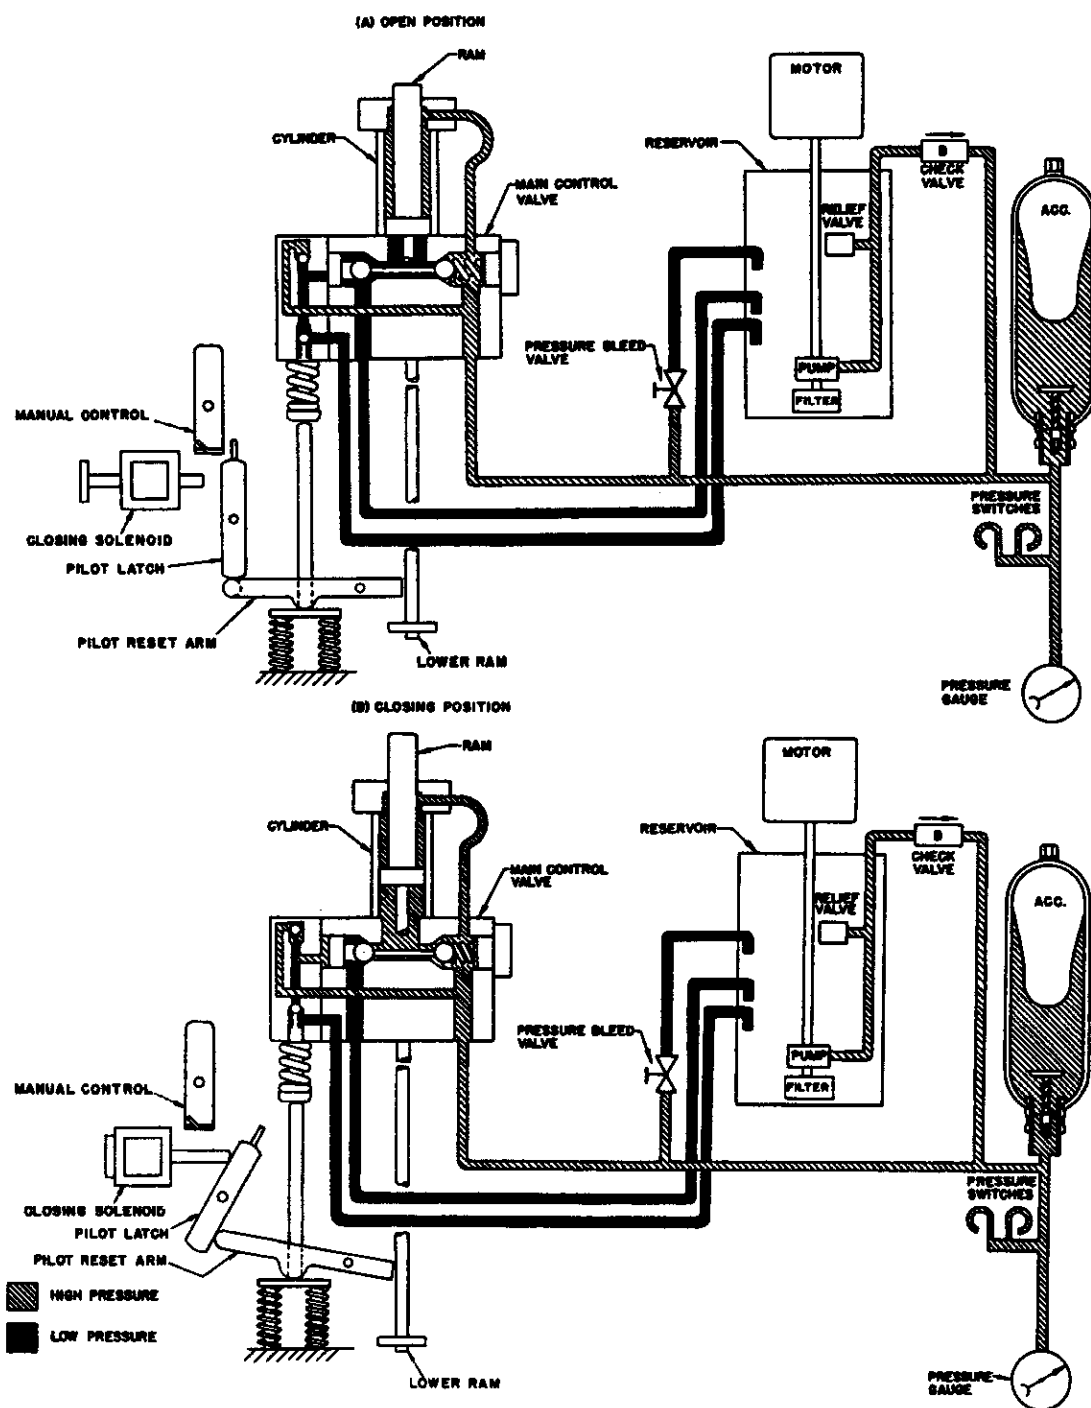

FIG. 2
*System pressure must be at zero and pressure bleed valve (Ref. Fig. 2) must be left in the open position during the jacking operation.*